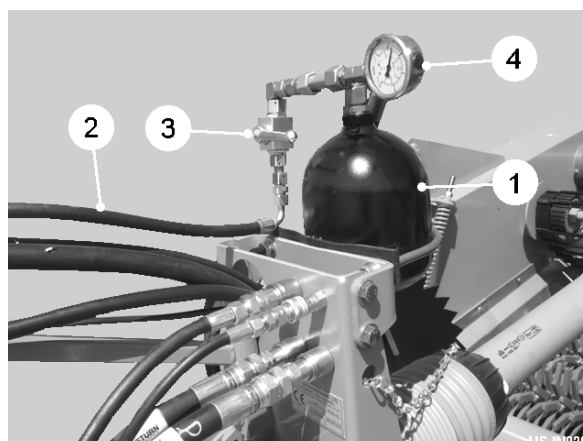

Fig 13
The hydraulically damped drawbar is fitted to protect the machine when operating in soil conditions where buried obstructions may be encountered. The system consists of a hydraulic ram mounted within the drawbar pressurised by an accumulator (item 1, fig 13).
To set the accumulator pressure, connect the hose (item 2, fig 13) to the tractor spool valve and open the accumulator valve (item 3, fig 13). Open the tractor spool valve while closely watching the pressure gauge (item 4, fig 13). When the pressure reaches 65 bar immediately close the spool valve and then close the accumulator valve. If necessary, reduce the pressure slightly using the accumulator valve. The drawbar is now pressurised and ready for operation. If in work, due to differing soil conditions, the initial setting of 65 bar is found to be too low and the drawbar is extending in normal work, increase the pressure setting by increments of 10 bar until the drawbar is static. **DO NOT EXCEED 120 BAR.** If the drawbar is still not functioning correctly when the maximum pressure is reached, consult your Standen dealer for further advice.